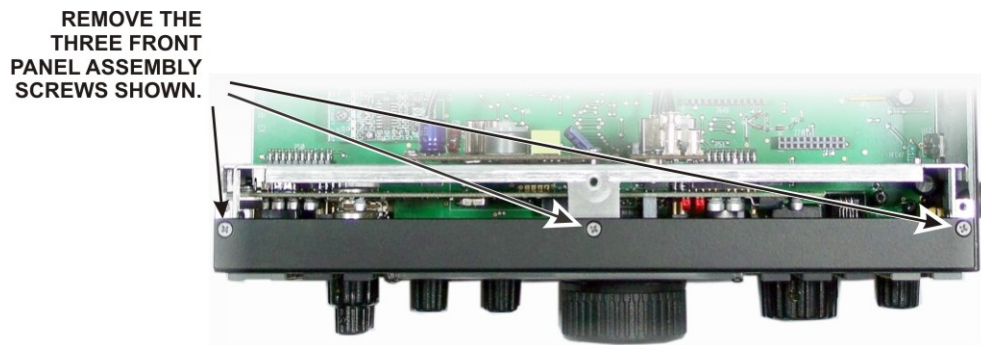

Figure 5. Removing the Top Front Panel Screws.
- Remove the three screws securing the top of the front panel assembly as shown in Figure 5.
⚠ CAUTION: Before continuing on with the next step, be sure you have removed the three top Front Panel Assembly screws shown in Figure 5. You may bend and damage the front panel or shield assemblies if the screws are not removed!
- Fasten the top of the front panel assembly with three 4-40 3/16" (4.8 mm) black flat head screws (see Figure 5).